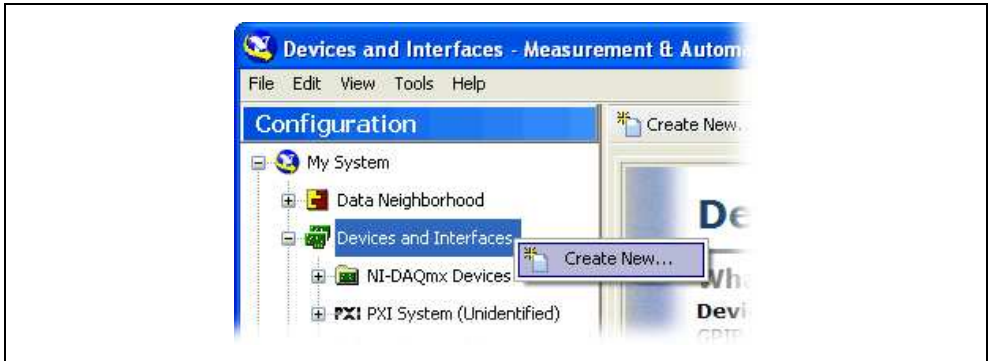

Figure 18. Create New in Devices and Interfaces
3. Right-click **Devices and Interfaces** and select **Create New** as shown in Figure 18.